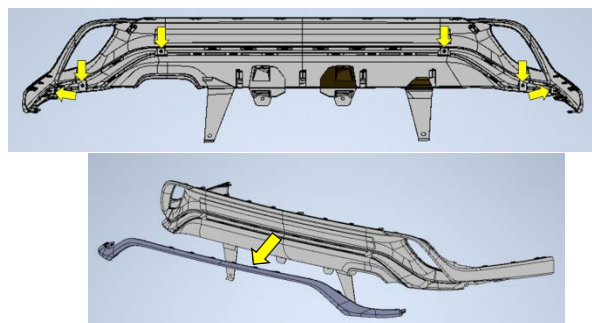

Fig. 10-10
(h) **XSE Grade:** Remove the accent trim piece from the rear bumper extension by removing four (4) screws and sixteen (16) claws. (Fig. 10-10)